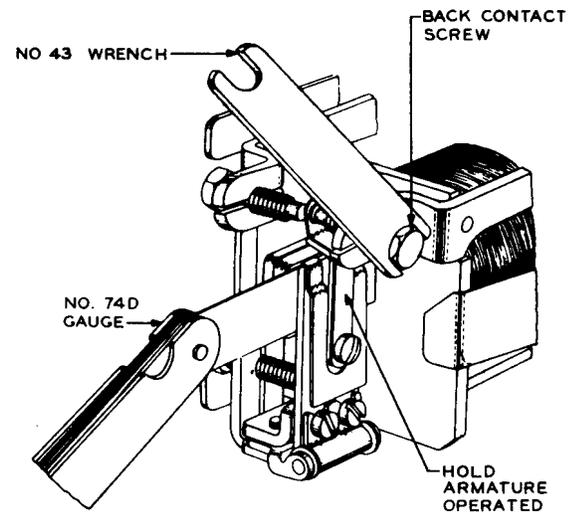

Fig. 16 - Method of Adjusting for Armature Travel
(1) Turn the back and front contact screws outward with the No. 43 wrench until the blade of the No. 74D gauge corresponding to the mean value can be inserted between the armature stop pins and the core. Hold the armature firmly operated against the gauge and slowly turn the back contact screw inward with the No. 43 wrench until the back contact just makes. Release the armature and if the armature moves away from the core, as indicated by the gauge becoming loose, continue turning the contact screw until the gauge fits snugly but not tight between the armature and core. See Fig. 16.